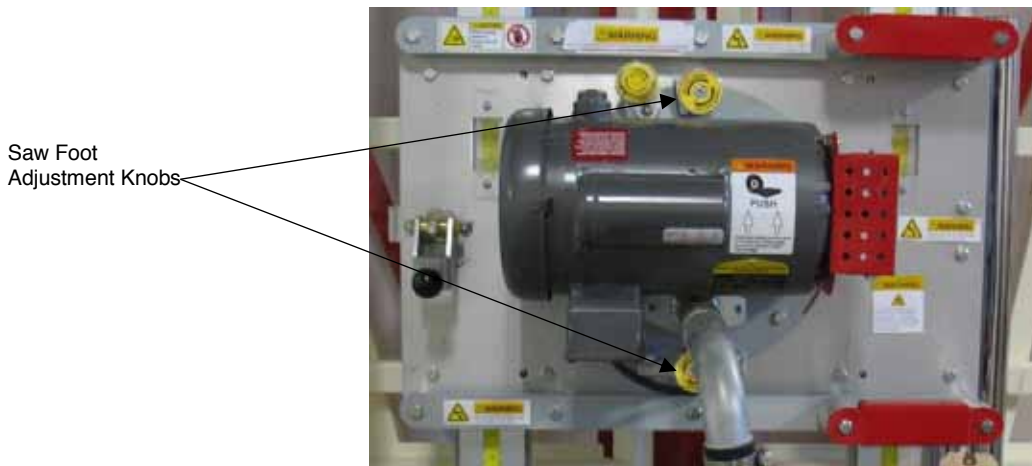

Figure 21: Saw Foot Adjustment Knobs (Crosscut Position)
Rotate both Saw Foot Adjustment Knobs to move Saw Foot to its lowest position (Fig. 21).
Rotate both Saw Foot Adjustment Knobs to move Saw Foot to its highest position (Fig. 21). Remove the two, brass, Saw Foot retaining bolts (Fig.24A) using a 1/2" wrench. Remove Saw Foot by lifting it up and off of the two Guide Pins (Fig. 24A).
Adjust saw foot to provide slight pressure on material to be cut (Fig. 21).
2. Position Saw Carriage in Crosscut position, rotate if necessary (Pg. 22, Fig. 21).
3. Raise Saw Foot by turning both Saw Foot Lifting Knobs (Pg. 22, Fig. 21).